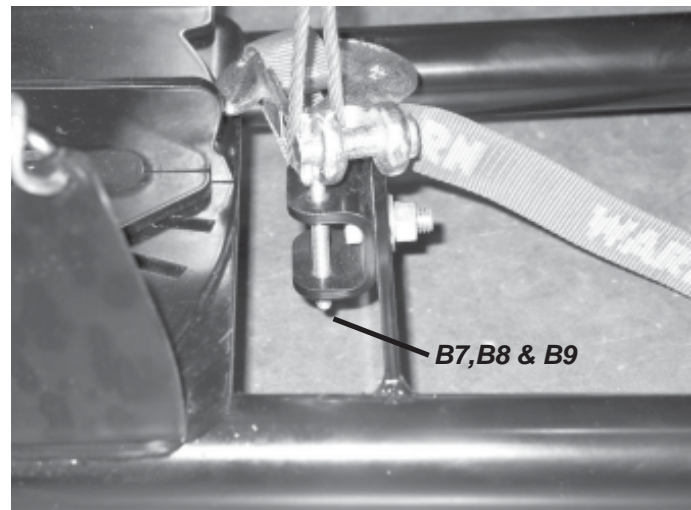

Figure 5 - J-Bolt Bracket and Winch
6. Slide the J-bolt down through the round hole in the J-bolt bracket and terminate with the supplied 1/4 flat washer (B8) and 1/4-20 lock nut (B9) as shown in figure 5. The end of the hook should be sitting in the slotted hole in the bracket.